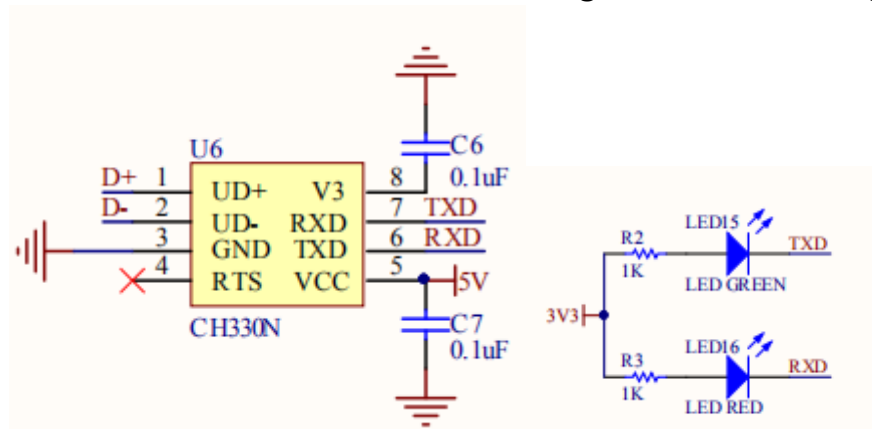

Figure 2-1 The schematic diagram of USB to UART Serial
The development board carries a USB to serial chip, CH330. This chip has two features: (1) supports 5V and 3.3V supply voltage; (2) can communicate with the computer end with a USB cable. The schematic diagram is shown in figure 2-1.